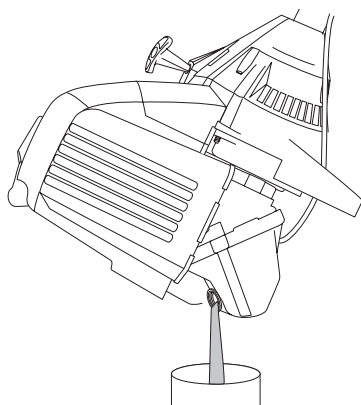

Fig. 59
3. Pour the oil out of the oil fill hole and into a container by tipping the unit to a vertical position (Fig. 59). Allow ample time for complete drainage.